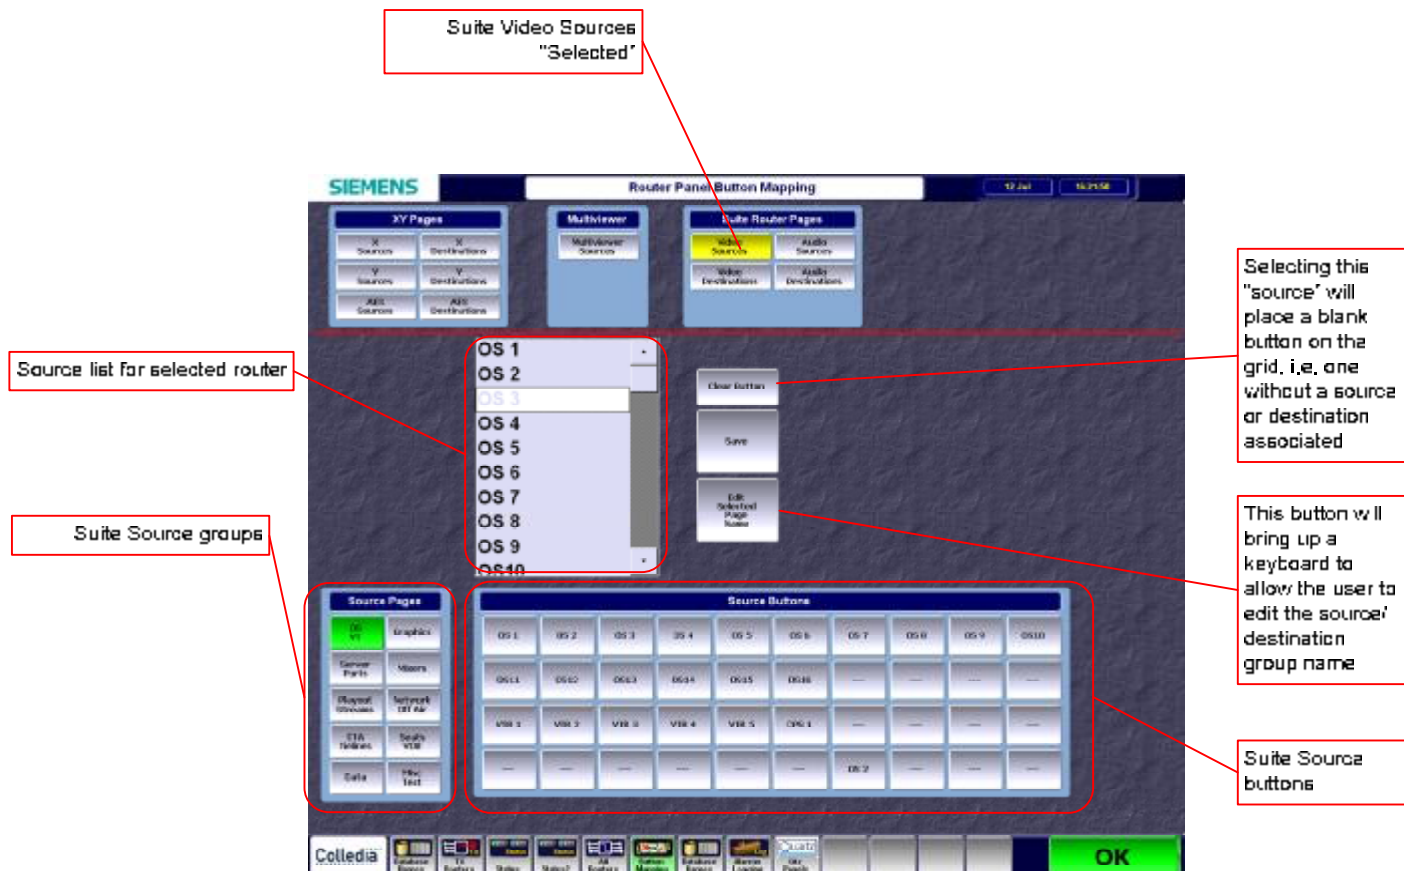

Figure 13. Button Mapping
E.g. if the video was to freeze on to output of ECut PSA chain you will hear an alarm and the bottom right hand corner of Panel manager will go red (look at the bottom right hand corner of Figure 13).